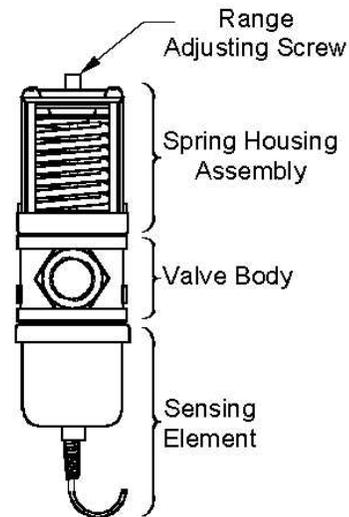

Figure 2: Valve Components
To raise the valve opening point on direct-acting valves, turn the adjusting screw counter-clockwise. To lower the valve opening point, turn the range adjusting screw clockwise. See Figure 2. The closing point of the valve is not adjustable. Temperature-actuated valves close approximately 3 to 5 degrees Fahrenheit (1.7 to 2.8C) below the opening point.
2. Remove the four screws holding the spring housing and remove the entire housing assembly. See Figure 2.